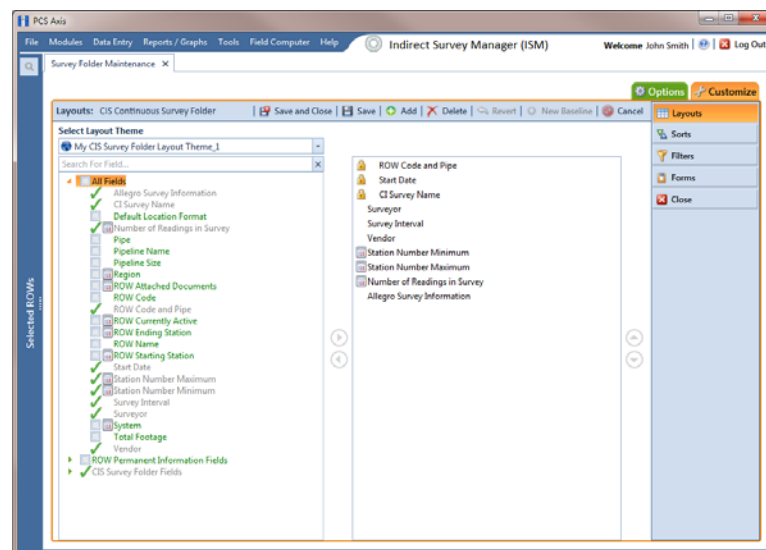

Figure 5-11. Layouts
- 8 Click  **OK** to save changes and return to the *Layouts* page (Figure 5-11).
NOTE: Fields with a lock icon  are required and cannot be removed from the theme, such as  **ROW Code and Pipe** shown in the previous example (Figure 5-11, page 145).